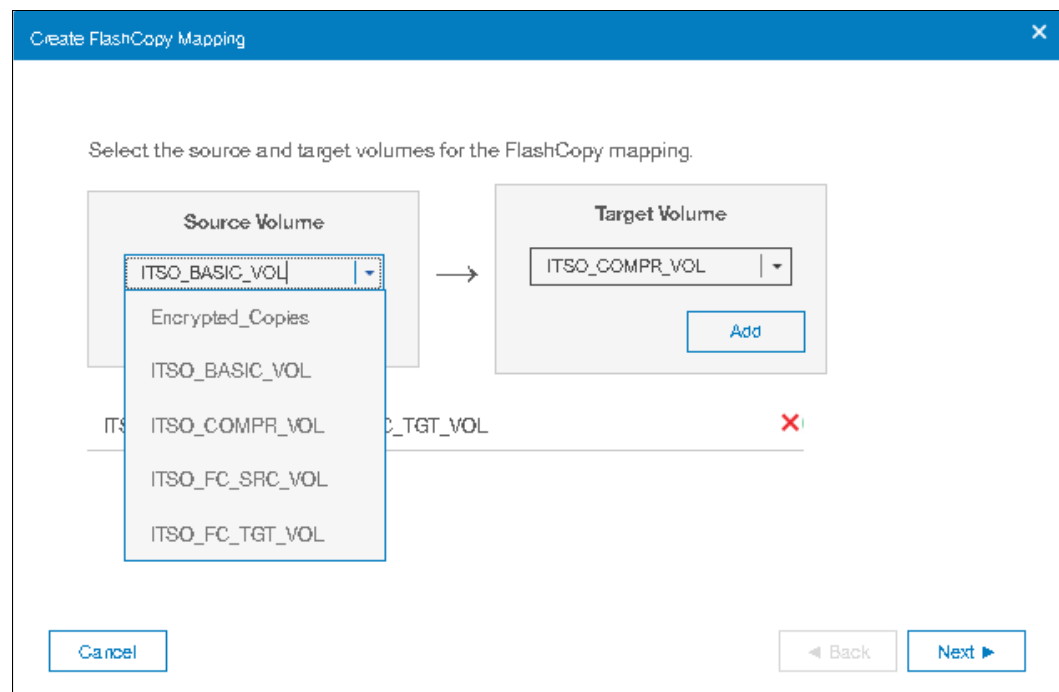

Figure 10-45 Selecting source and target volumes
6. Select a volume in the Source Volume column by using the drop-down list. Then, select a volume in the Target Volume column by using the drop-down list. Click **Add**, as shown in Figure 10-45. Repeat this step to create other relationships.